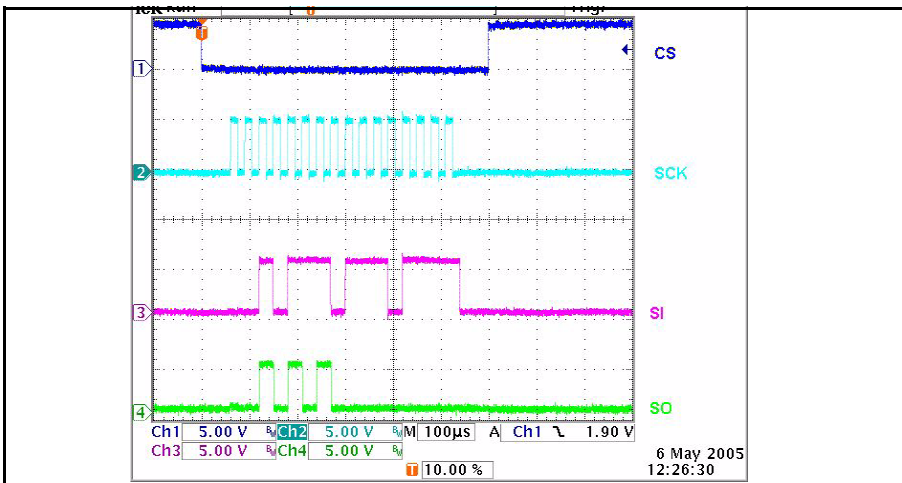

Figure 21 Enable SCL Function of Channel 9
Step 4 Enable SCL function of channel 9 with command WR_CONFIG, setting O9-SCB (bit 4) to 0, shown in Figure 21.